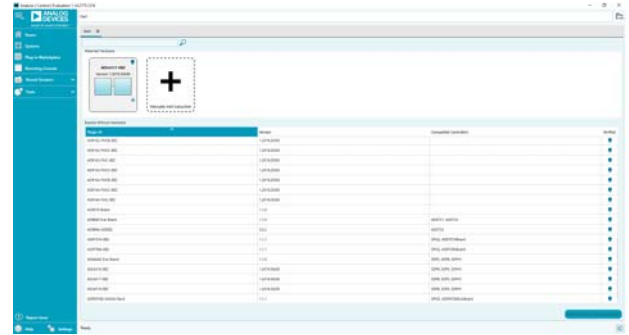

Figure 3. ACE Plugin View
1. Double-click the **ACE** shortcut on the PC desktop of the computer (if created). The software automatically detects the ADL6317-EVALZ evaluation board. The software opens the **ACE** plugin view, as shown in Figure 3.